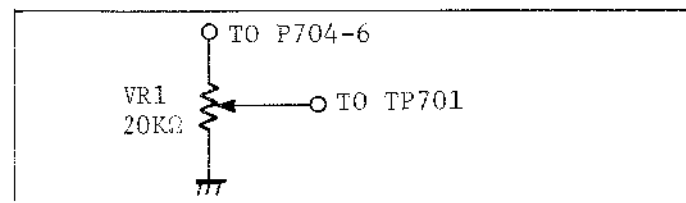

Fig. 61
3. Connect the JIG to both points P704-6 and TP701 as shown Fig. 61 and adjust VR1 so that the Sweep output becomes 2.0Vp-p.